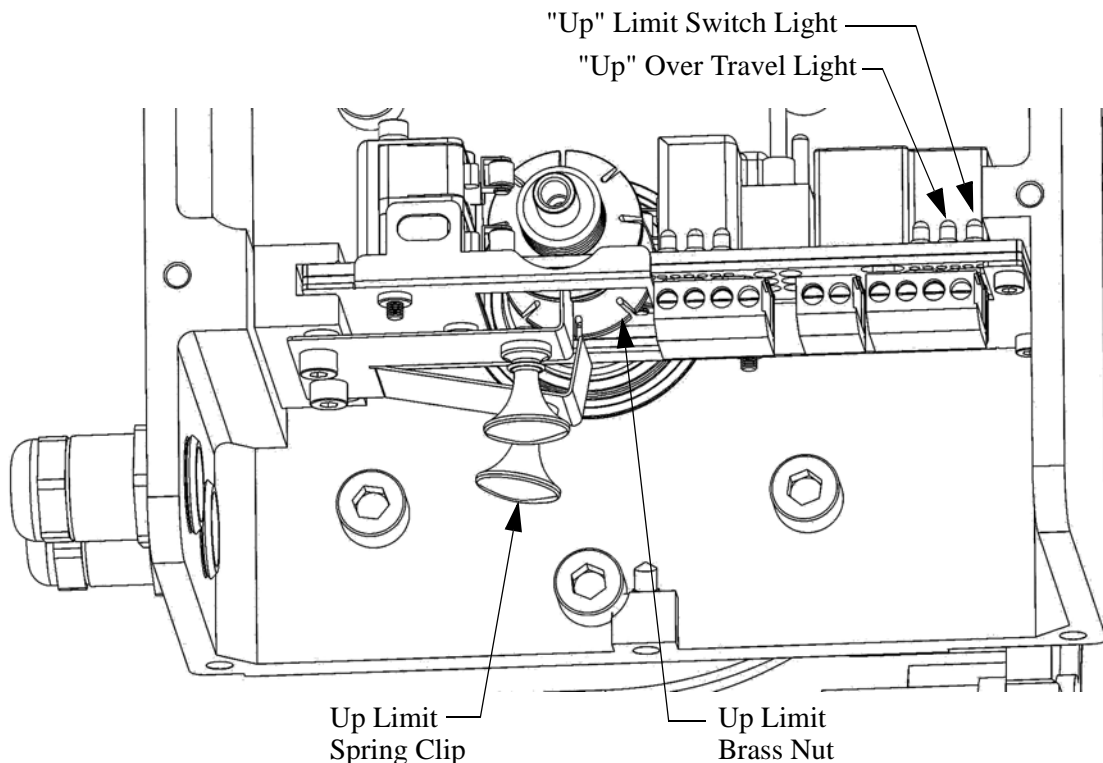

Figure 22.Up Limit Diagram
3. Pull the Spring Clip from the Up Limit Nut. Rotate the Brass Nut until the Up Limit Switch Light comes on, and the Up Limit Switch is energized. (Should hear a click) (See Figure 22).